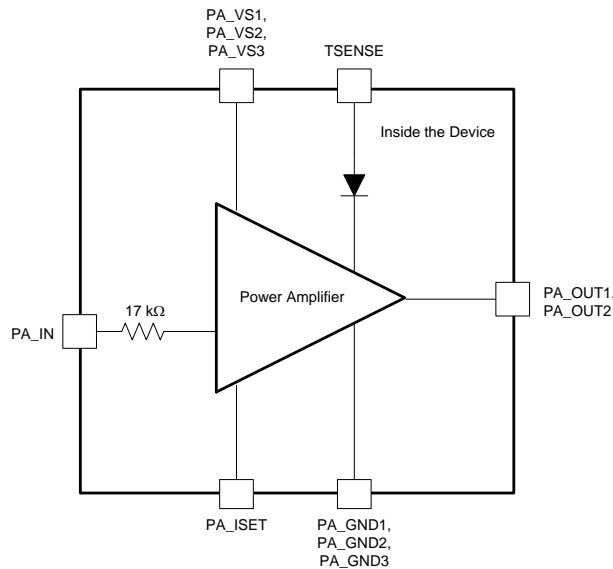

Figure 12. PA Block Equivalent Circuit
The power amplifier (PA) block consists of a high slew rate, high-voltage, and high-current operational amplifier. The PA is configured with an inverting gain of 7 V/V, has a low-pass filter response, and maintains excellent linearity and low distortion throughout its bandwidth. The PA is specified to operate from 7 V to 24 V and can deliver up to ± 1.9 A of continuous output current over the specified junction temperature range of -40°C to $+125^{\circ}\text{C}$. The PA block is shown in Figure 12.